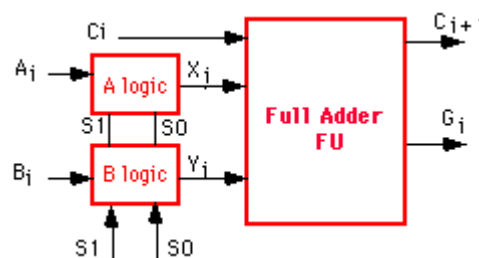

Figure 10.2: Schematic Block Diagram of the Arithmetic Unit.
9. Connect the outputs of the *bit-slice* macros to the full adder as in Figure 10.2.